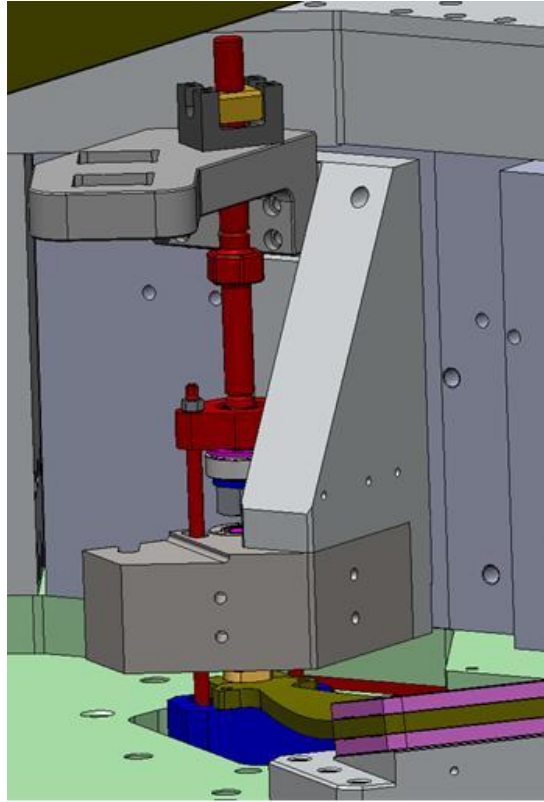
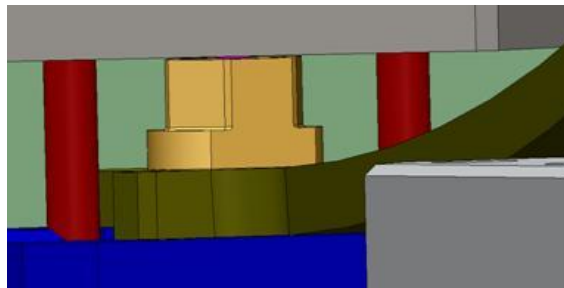

Figure 116: D0902454 Stage 1-2 Blade Puller and D0902103 Stage 1-2 Flexure Rod Assembly
Figure 117: Detail on D0901743 Bracket Flexure Shim
1.71. Slide D0902104 Stage 1-2 Flexure Rod Assembly into place until D0901743 Bracket Flexure Shim makes contact with D0902502 Stage 1-2 Blade Spring tip internal hole (see Figure 116 & Figure 117).